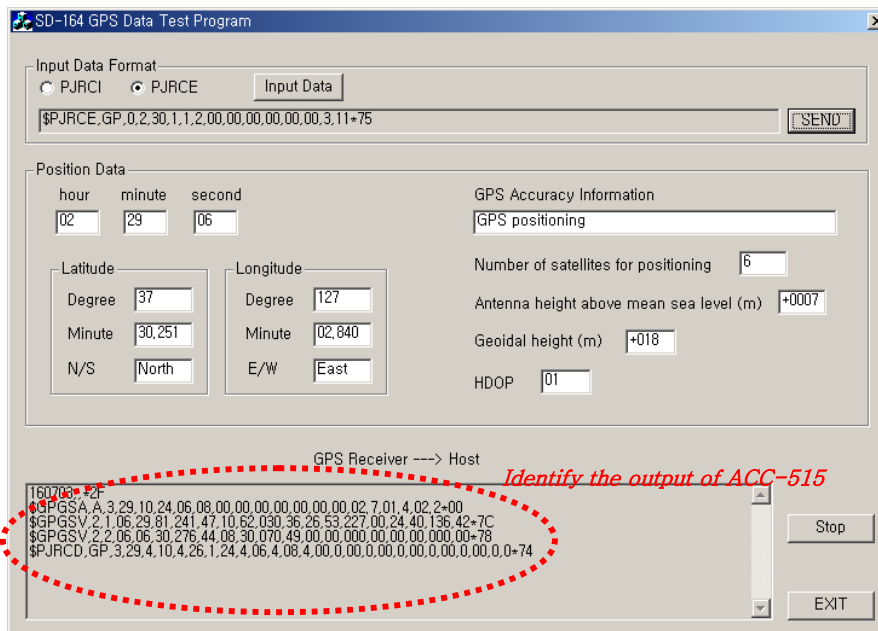

Figure 5.7. Identification of the output of ACC-515
12. Identify the outputs of ACC-515 in display window whether those contain GSA and GSV data as shown in Figure 5.7.